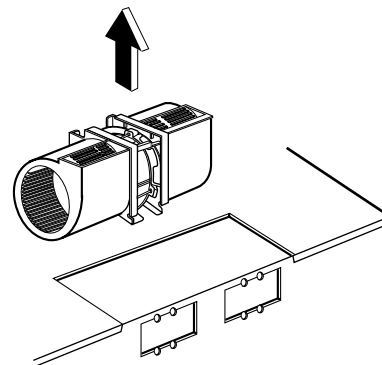

Figure 19-b
- (3) Carefully pull the ventilation motor ASS'Y out of the microwave oven. (See Figure 19-b)